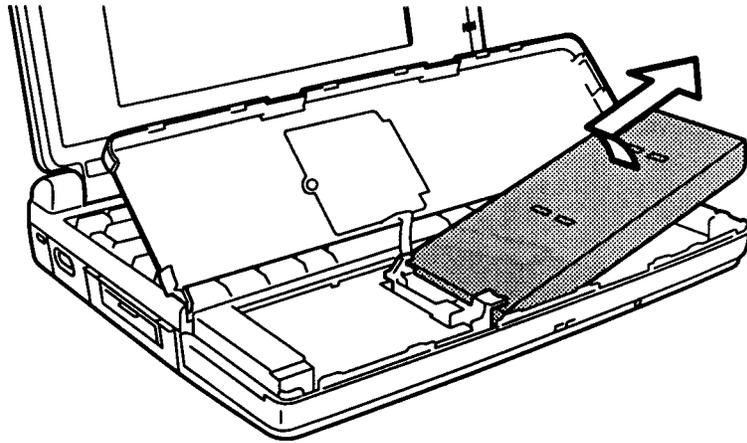

Figure 4-3 Removing the battery pack
To install a battery pack, follow the steps below and refer to Figures 4-3 and 4-2.
2. Carefully insert the new or recharged battery pack. Set the grooved end against the battery contacts first, then lay the battery in place. Be sure the end of the plastic tab lies on top of the battery (Figure 4-3).